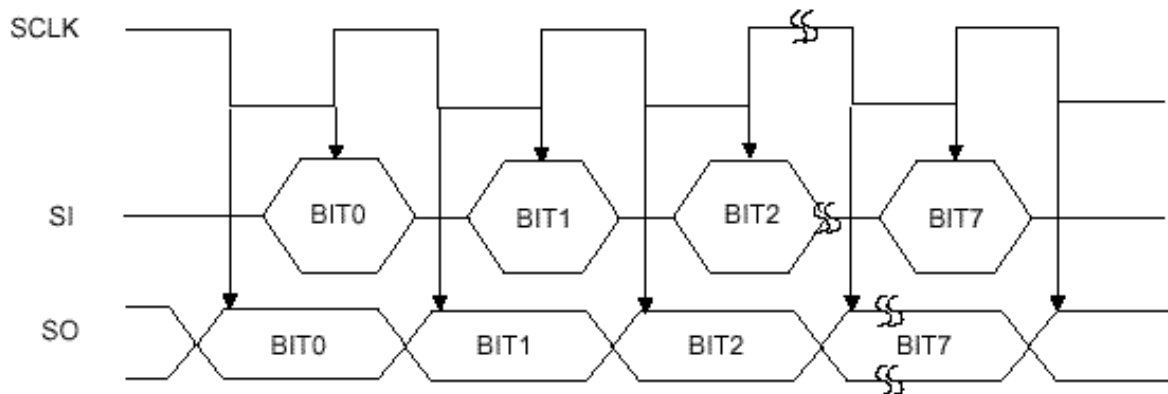

Figure 5-9-3. Serial I/O Timing
The receiver (RX) receives data from E1 (E4) pin on the rising SCLK1 (SCLK2) edges and the transmitter (TX) transmits data to E0 (E3) pin on the falling SCLK1 (SCLK2) edges as shown in Figure 5-9-3.